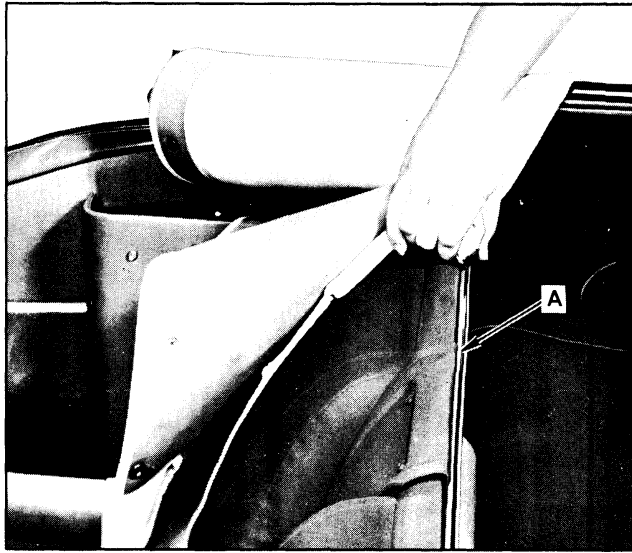

Fig. 22-13 Slide Boot into Retainer
1. Slide front edge of boot into retainer "A" along seat back (Fig. 22-13). Center boot for proper engagement of snap fasteners.